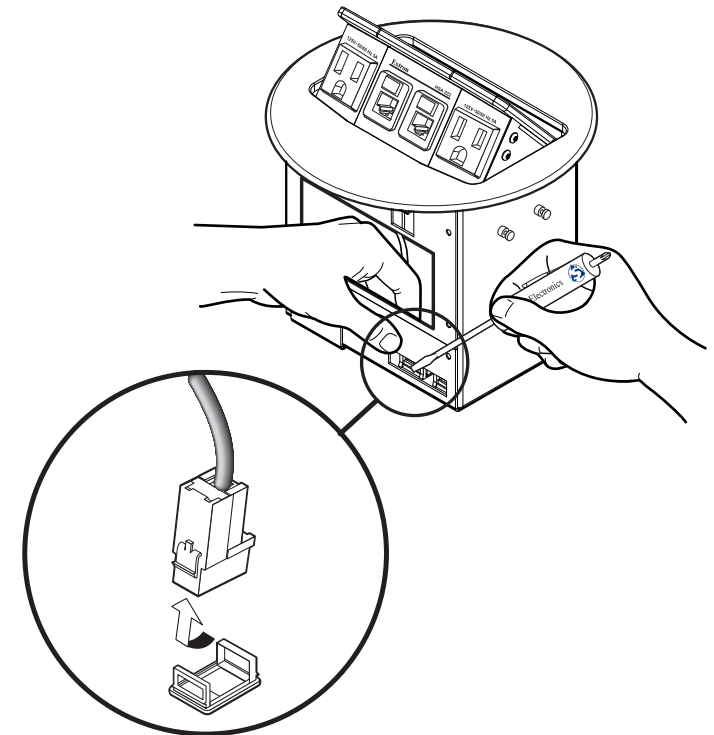

Figure 3-2 — Releasing the bezel plug-in detent (HSA 222 models)
- With a Tweezer in one hand, reach through the small access hole in the front of the enclosure (figure 3-2) and gently pry outward on the front of the RJ-45 connector detent on the bezel plug-in,